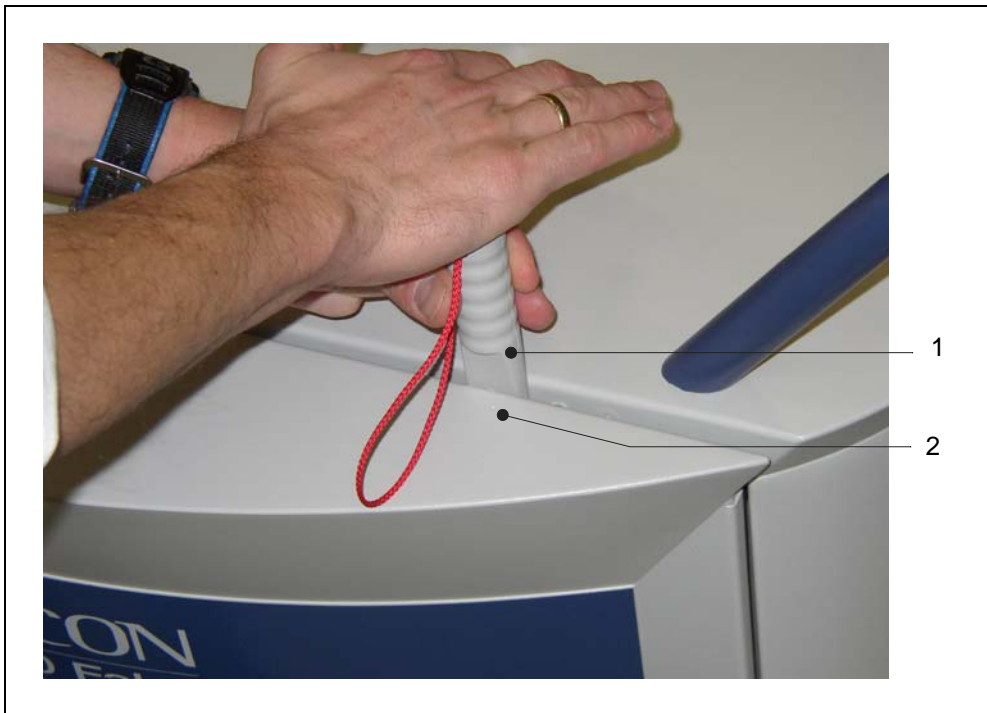

Fig. 9-1 Opening the UL1000 and UL1000 Fab/UL1000
- The correct position where to apply the side wall separator is marked by a dent on both the covers. For this refer to Fig. 9-1/2.